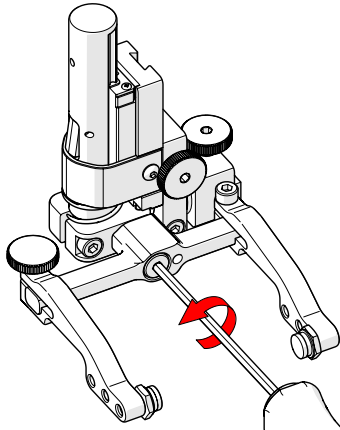

Fig. 179 - Unscrew yoke pivot screw
2. Using the supplied 3 mm hex driver (Fig. 1), unscrew the yoke pivot screw and remove yoke (Fig. 179).